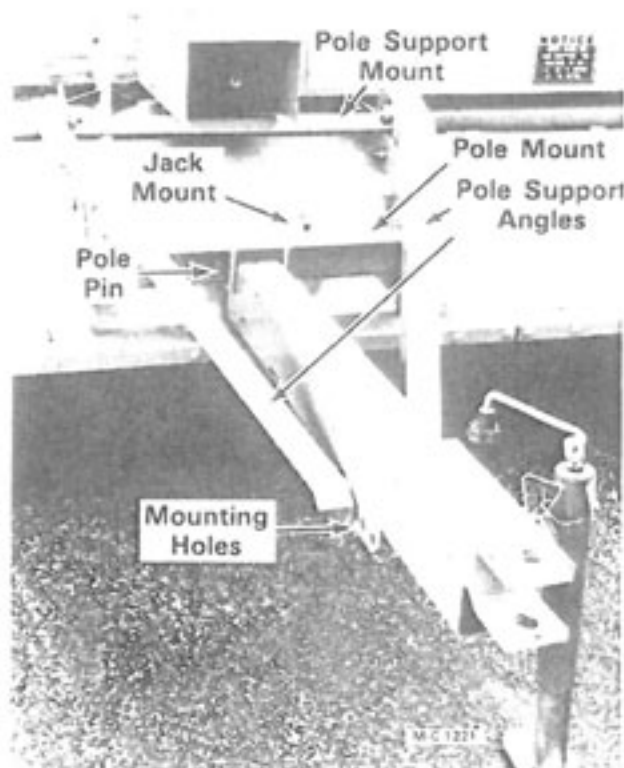

Figure 6 - HDCL Models
1. Attach the pole mount to the two lower holes on the front wrapper ribs with  $\frac{5}{8}$ -11 x 2" (Grade 5) hex-head capscrews, lockwashers and hex-nuts, see Figure 6.
2. Attach the pole support mount to the outside of the front wrapper ribs (use the second and third hole from the top) with  $\frac{5}{8}$ -11 x 2" (Grade 5) hex-head capscrews, lockwashers and hex-nuts, see Figure 6. Keep the capscrew heads to the outside.